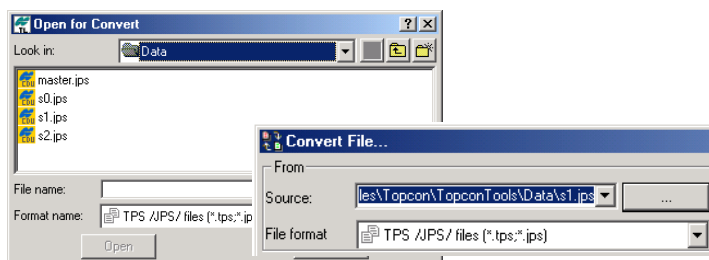

Figure D-24. Select Files to Convert
- Click the **Browse** (“...”). Select the file to import and click **Open** (Figure D-24).
The full path of the file displays in the *Source* field (Figure D-24).